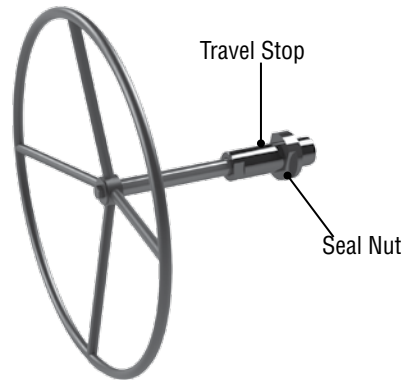

Figure 5 – Not Enclosed Jackscrew Manual Override
- 2.2.1.1 Loosen the seal nut with a proper wrench (Figure 5).
- 2.2.1.2 While keeping the seal nut stationary, screw or un-screw the travel-stop (Figure 5) bolt using a proper Allen key.